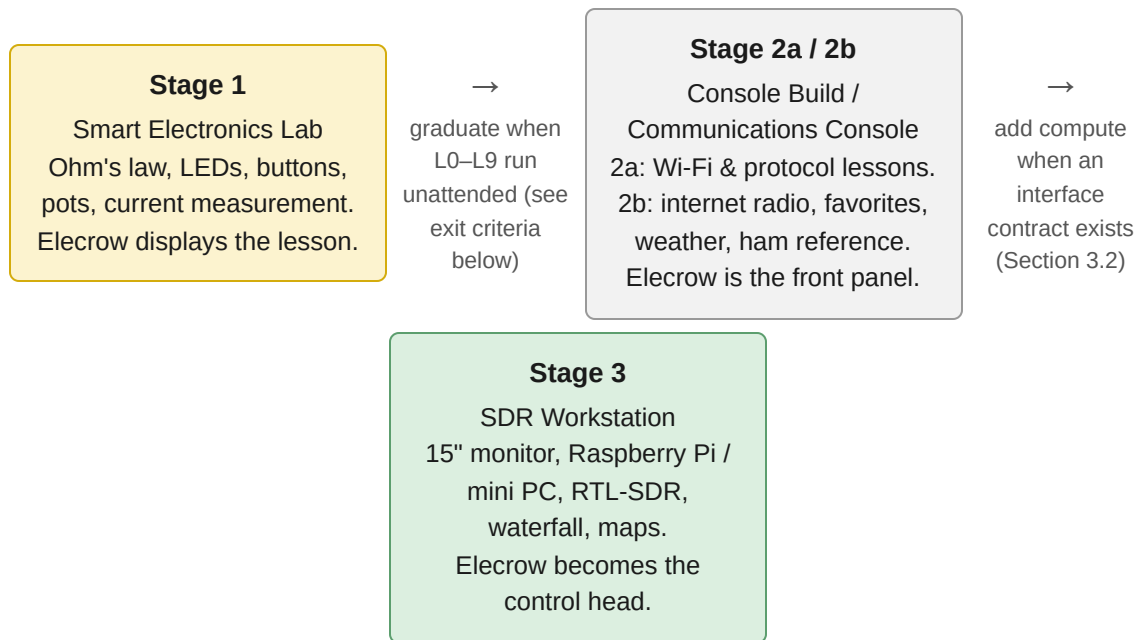

Figure 2. Three-stage roadmap with graduation criteria (v1.1 adds the criteria; the stages are unchanged from v1.0).
2. **Graduation criteria added to the roadmap.** Figure 2 said "graduate" and "add compute" without saying what that means. Each stage transition now has a concrete, testable exit condition.